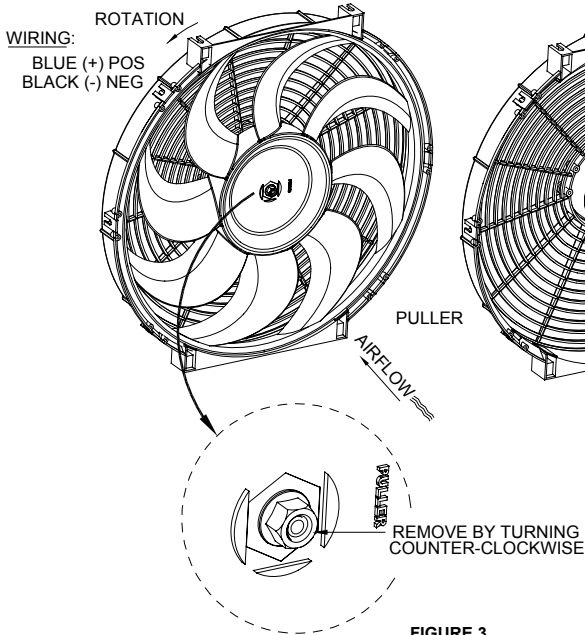

FIGURE 3
1. Disconnect power to the fan. Remove retaining nut by turning Counter-Clockwise. **Figure 3**.